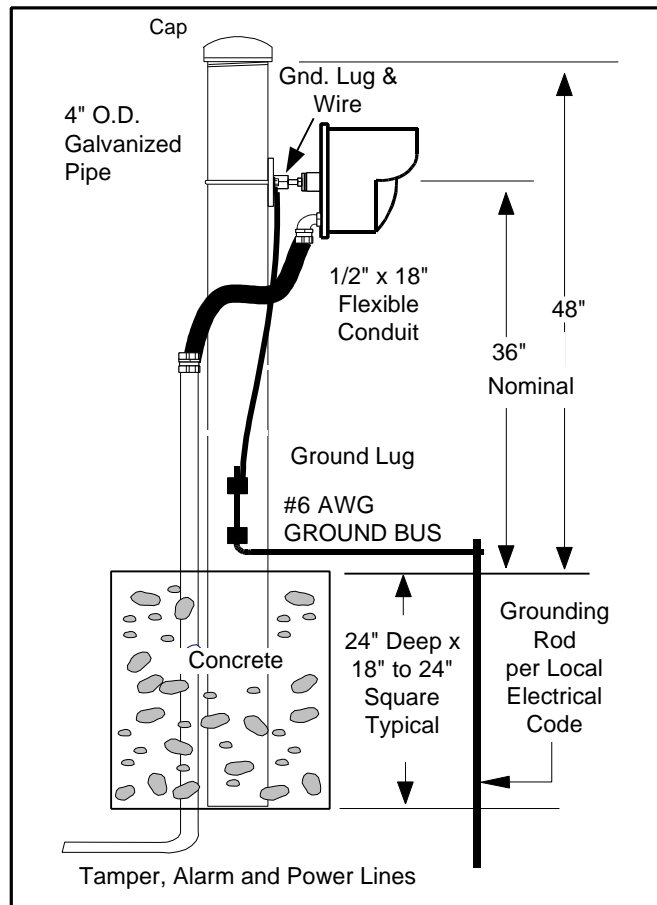

Figure 14
1. Prepare a rigid mounting surface for the Model 310B Transmitter and Receiver. Do not mount units on a cyclone fence or any vibrating surface. A recommended mounting post is a 3 ½ inch (9cm) galvanized pipe (outside diameter 4 inches, 10cm), sunk into the ground in a concrete base, and protruding above ground level to a height of 4 feet (1.2m). Mount the Transmitter and Receiver 2 ½ to 3 feet (0.75 to 1.0m) above ground level and allow for height adjustment of at least plus or minus 6 inches (15cm). Height adjustment may be required during final alignment to achieve optimum protection pattern. See Figure 14. An 18-inch (46cm) ½ inch flex conduit is recommended between conduit fitting of T/R and rigid conduit.